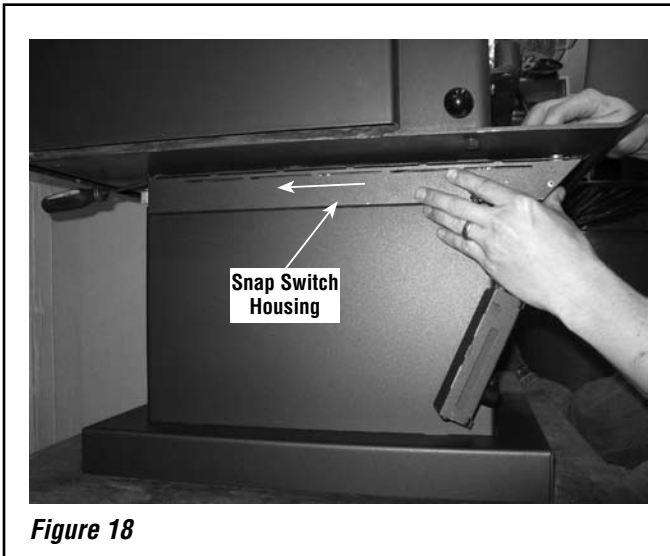

Figure 18
Step 4. While holding the snap switch bracket against the pedestal, slide the bracket towards the rear of the stove until it comes to a stop. Once the snap switch bracket is in place you can then remove the flat head screwdriver or pry bar that was used to create the opening between the firebox bottom and pedestal. See **Figure 18**.